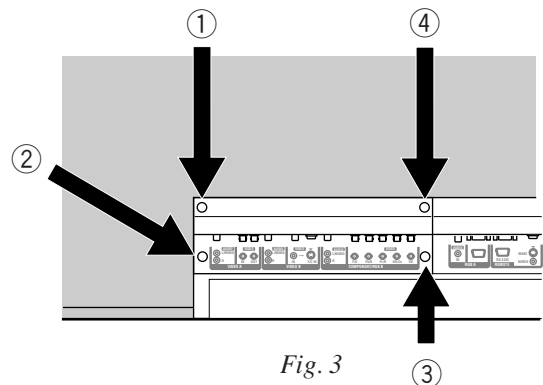

Fig. 3
- 2) Fix the Video Input Unit with the 4 screws removed in step 2 (① to ④) (Fig. 3).